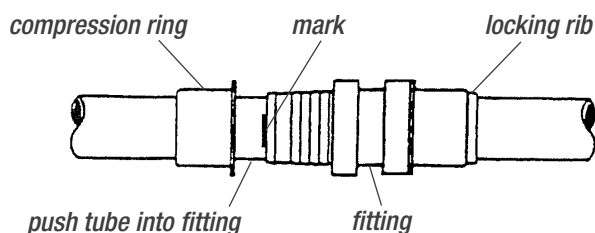

Figure 1
- Slide compression ring over end of tubing. Push tubing into fitting until end of tubing butts against shoulder inside the fitting. The mark should line up with the edge of the fitting (Figure 1).